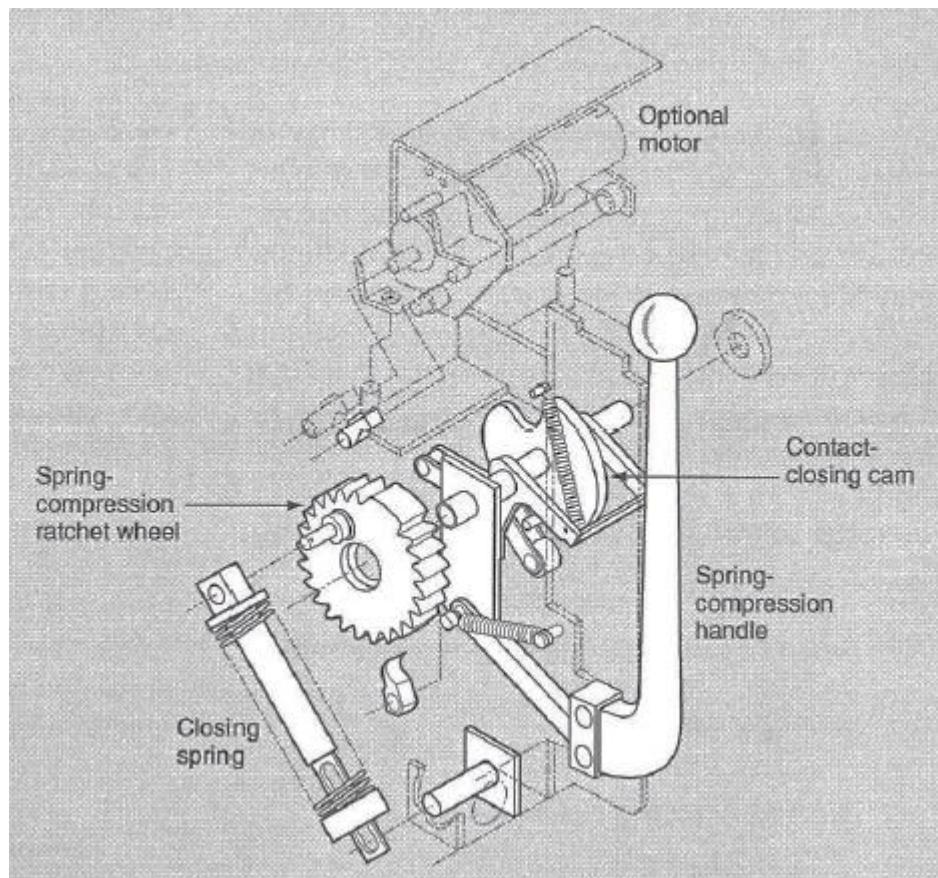

Figure 5.19: Stored-Energy Mechanism
- 5-68 The stored-energy mechanism of the air breaker shown in Figure 5.19 has a mechanism that compresses a spring. The spring stores enough energy to close and latch the breaker. The spring is held in its fully compressed position by a latch until the latch is released for the closing operation. The spring then drives the breaker contacts closed.